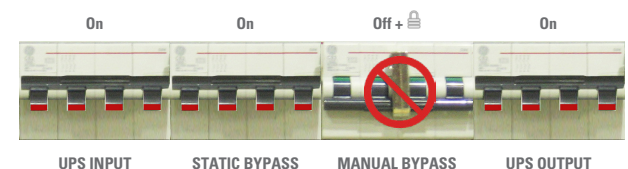

Fig. 15. Position of the bypass panel switches in «Normal operating» (with one UPS only).
- In the illustration of Fig. 15 it is shown the position of the panel switches after doing the manoeuvring of this point.